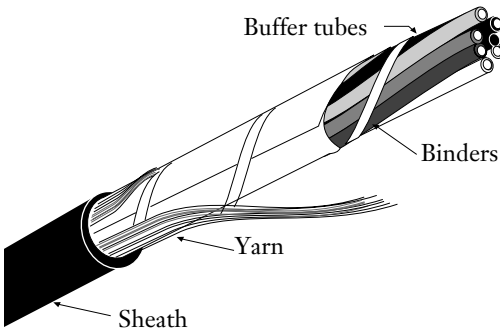

Figure 3
**4.1** Strip the cable sheath to the required length as described in the appropriate Corning Cable Systems SRP to access the buffer tubes (Figure 3).